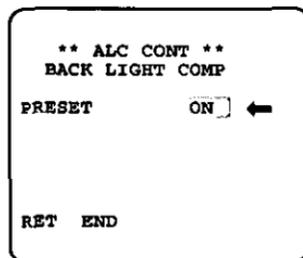

Fig. 32
- Move the cursor to the "PRESET" mode position and select the "ON" mode by using the Left Switch (<) (7) or Right Switch (>) (6). The preset mode menu is displayed on the monitor screen as shown in Fig. 32.